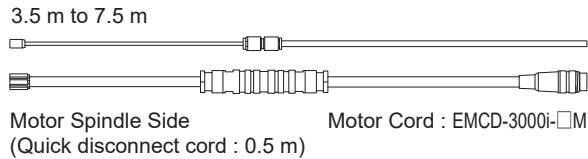

Fig. 17
- **"Hose Length"** indicates total hose length consisting of the Air Hose supplied with the Motor Spindle and the Air Hose supplied with each Motor Cord. See Fig. 17 and Table 2 to see how to calculate "Hose Length".
*Note 3: "Hose Length" indicates total hose length consisting of the Air Hose supplied with the Motor Spindle and the Air Hose supplied with each Motor Cord. See Fig.17 to see how to calculate "Hose Length".